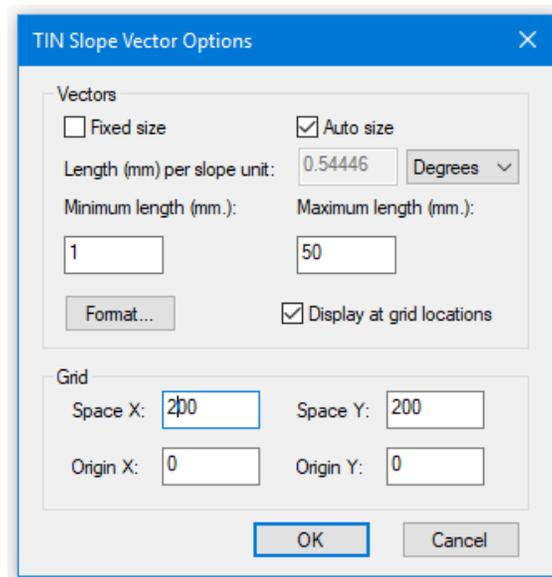

Figure 8-31: TIN Slope Vector Options Dialogue
- Type in a *Spacing* for both X and Y of **200** as shown in Figure 8-31 below.